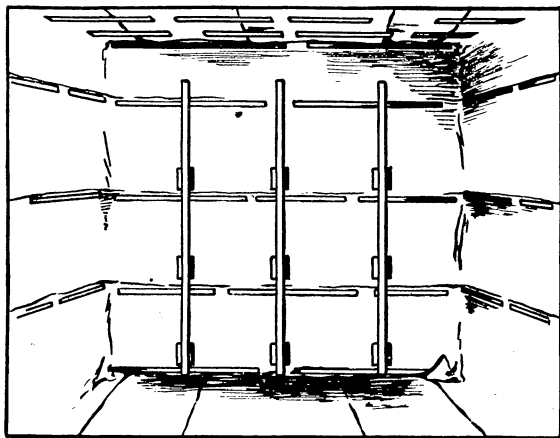

FIG. 4.—False end wall studding in place.
4. Nail 3 of the 2 by 4 inch by 7 feet pieces to the blocks as illustrated in figure 4. This will make a 6-inch space between the car end wall and the false end wall.
3. Nail ¹ 3 pieces of 2 by 4 inch studding to the blocks as illustrated in figure 4. This will make a 6-inch space between the car end wall and the false end wall. The studding should extend from the floor to about 8 inches from the ceiling.